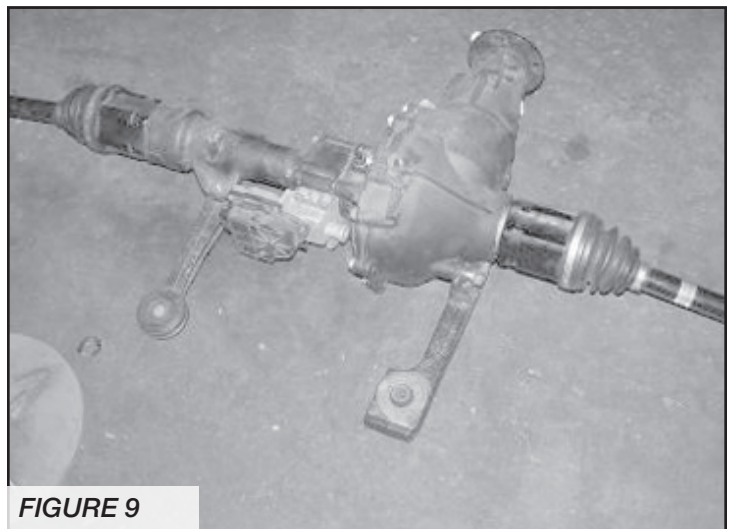

FIGURE 9
13. Support the front differential with a transmission or floor jack. Disconnect all electrical, vacuum lines, and breather lines from the differential. Remove the rear differential nut and save as you will reuse it during assembly. Remove the two front differential bracket bolts from the frame. Discard the bolts, as you will not reuse them. **DO NOT SEPARATE THE C.V. AXLES FROM THE DIFFERENTIAL.** Remove the differential from the truck and set aside. **USE CARE WHEN REMOVING DIFFERENTIAL AS TO NOT DAMAGE THE C.V. AXLES and 4WD VACUUM ACTUATOR ASSEMBLY. SEE FIGURE 9**